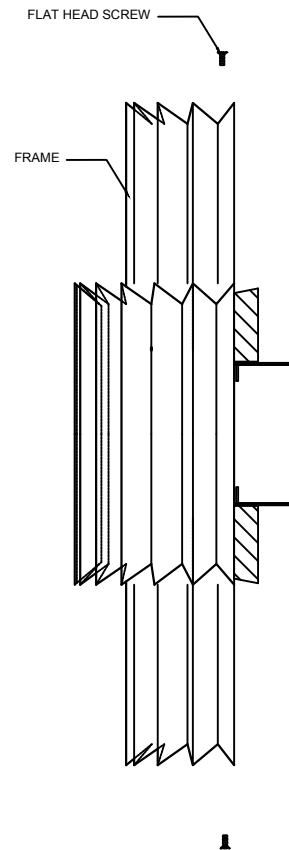

FIGURE-03
5. Using flat head screws fasten the frame to back plate. (See Figure-03)